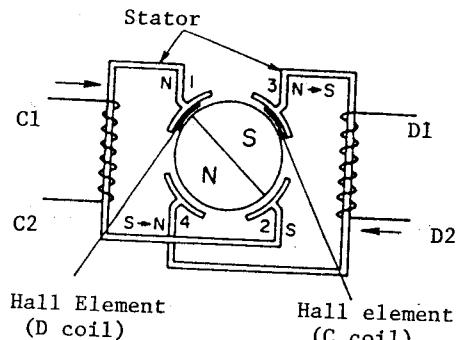

Fig. 2
B) When the rotor reaches the position indicated in figure 2, the output of the stator 3 Hall element causes the direction of current flow in coil D to reverse, reversing the polarity of stators 3 and 4. This causes stators 3 to 4 to repulse the rotor and 1 and 2 to attract it so that rotation continues.